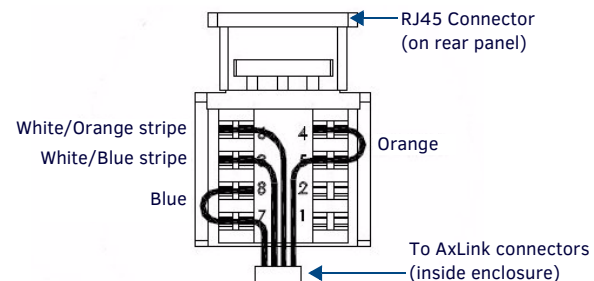

FIG. 5 AXLINK-TO-RJ45 CONNECTOR (INSIDE THE MET-TTS ENCLOSURE)
- FIG. 5 provides an illustration of the Cat 5 to AxLink Cable connector inside the MET-TTS1/2/3 enclosures: